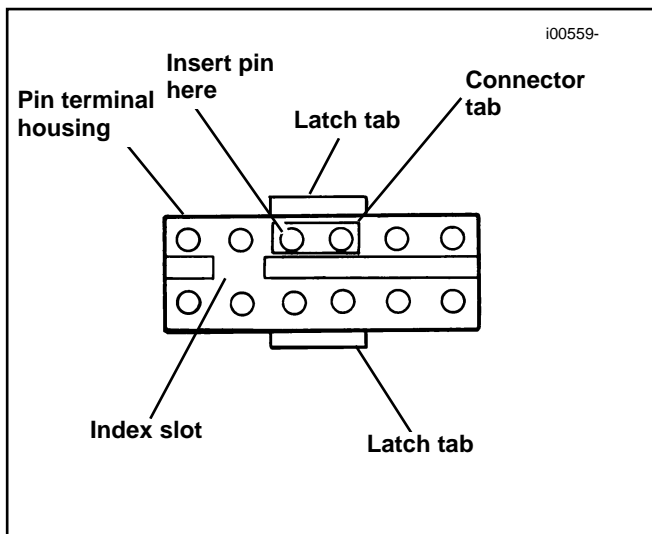

Figure 5. Connector Tab Location
2. See Figure 5. Crimp the end of a pin provided with this kit and insert it from the underside of the pin terminal housing in the location indicated.
3. See Figure 5. Place a terminal tab over the two pins indicated. Push the tab down to the base of the pins. Be certain that the tab does not touch adjacent tabs.